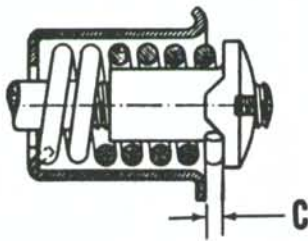

Fig. A2-6—Clearance (C) should be more than 0.06 inch. If clutch slips when adjusted to minimum clearance, renew plates as necessary.
the internal drive lugs bent in (toward the gear case). When adjusting the clutch spring nuts (17), tighten all nuts evenly until clutch does not slip. Springs can be adjusted through the small cover on right side cover after unit is assembled. Minimum clearance between adjuster nuts (17) and spring cups (15) is 0.06 inch as shown at (C—Fig. A2-6).